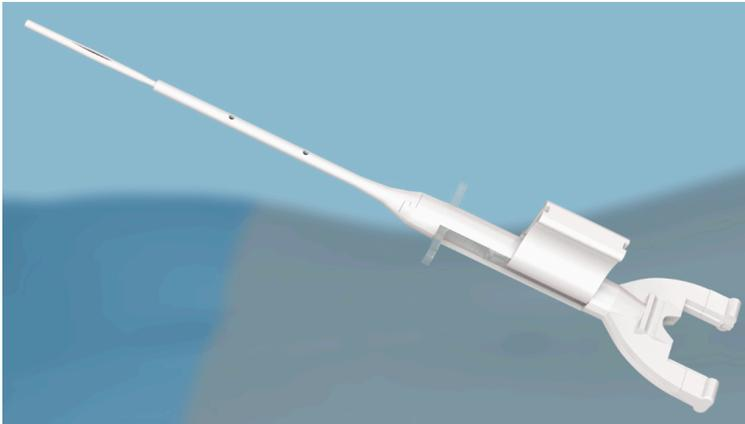

Figure 5
3. Once loaded, straighten the SandShark Anchor so that it can pass through the dermal layers and through the needle entry-site (see Figure 5).